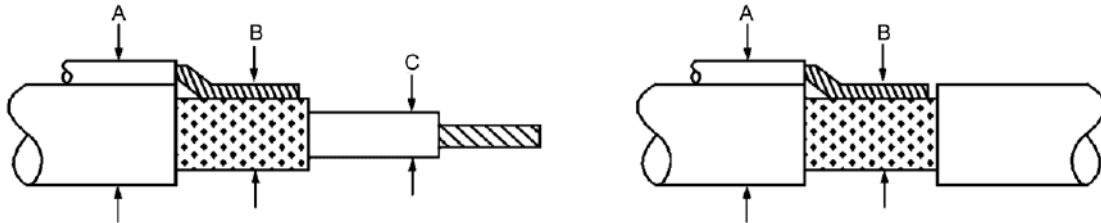

Figure 3-14 Combined Cable Diameter Measurements
- d. Measure the diameters "A, B and C" as shown in Figure 3-14.
- f. Position the solder sleeve over the assembly so that the solder ring is centred over the shielding as shown in Figure 3-14.
- a. Strip the shielded wire as shown in Figure 3-14.